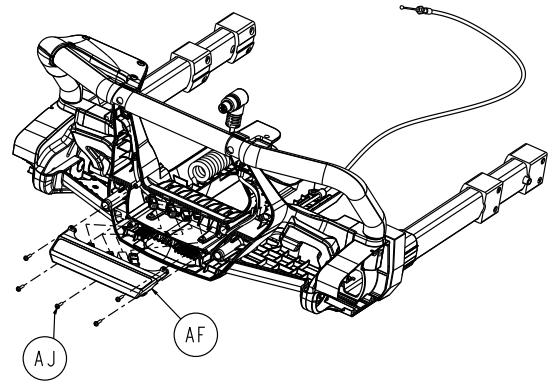

Figure 76 – Remove the light module cable assembly
- Using a T10 Torx driver, remove the five round washer head tapping screws (AJ) that secure the light module cable assembly (AF) (Figure 76). Remove and save the light module cable assembly. Save the screws.